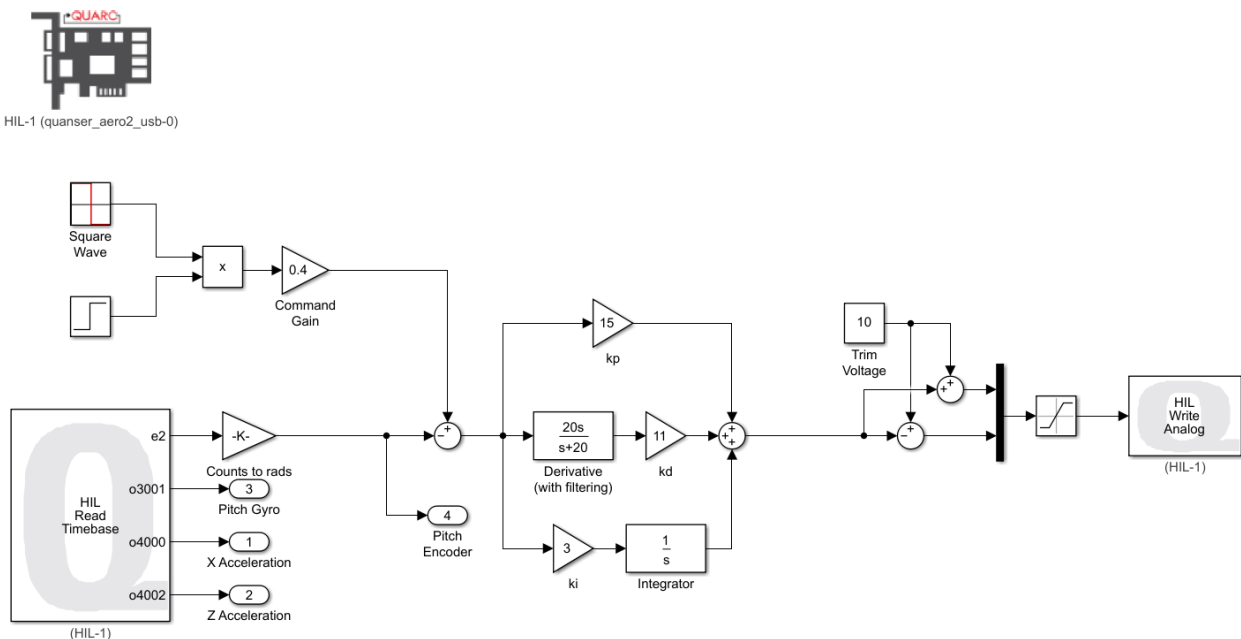

Figure 1: PID controller for the Aero 2 thrusters
1. Open the project *q_aero2_measurement_filtering.mdl* via MATLAB. It should resemble Figure 1. This model is a PID controller for the thrusters of the Aero 2.